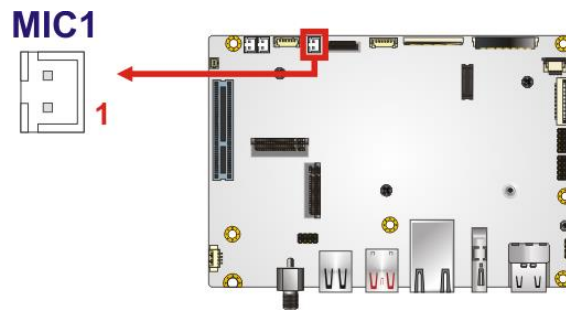

Figure 3-3: Audio Mic-in Location
- CN Location:** See **Figure 3-3**